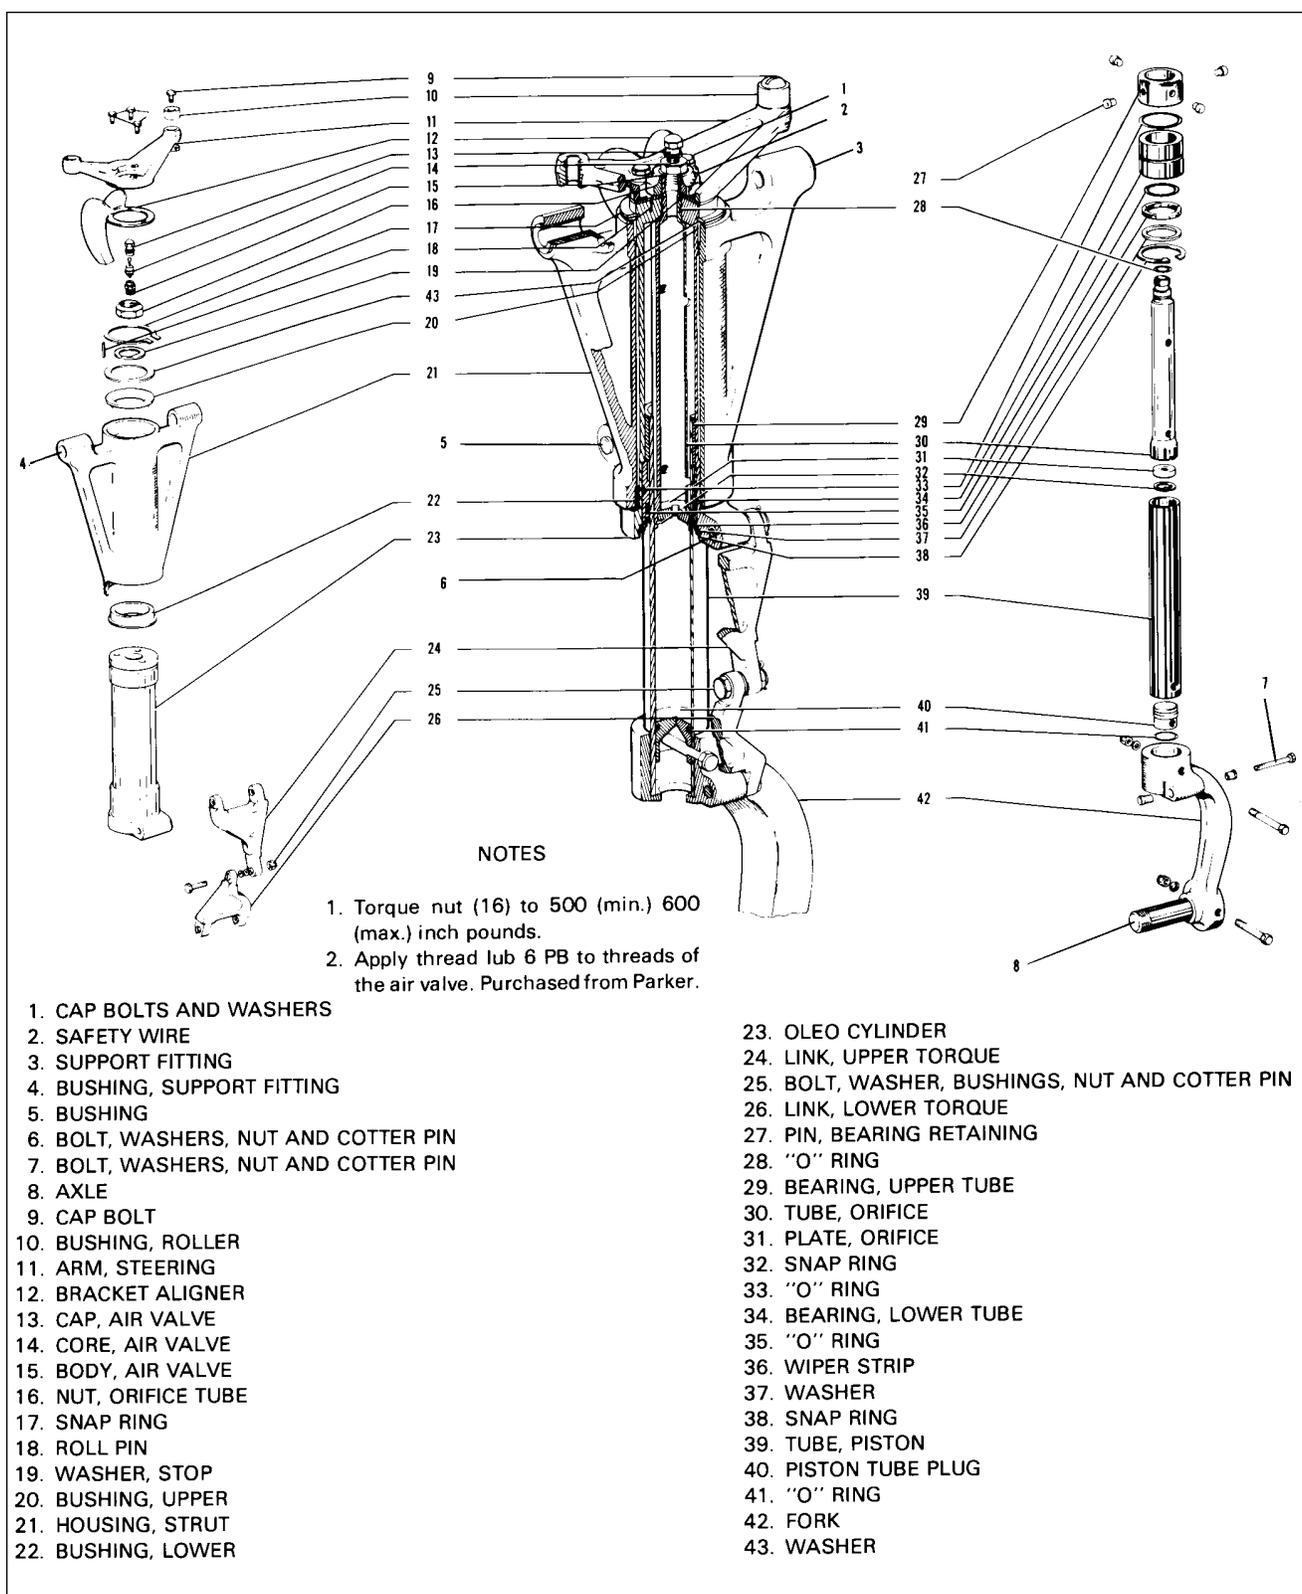

Figure 32-4. Nose Gear Oleo Strut Assembly
**DISASSEMBLY OF NOSE GEAR OLEO.** (Refer to Figure 32-4.)
**ASSEMBLY OF NOSE GEAR OLEO.** (Refer to Figure 32-4.)